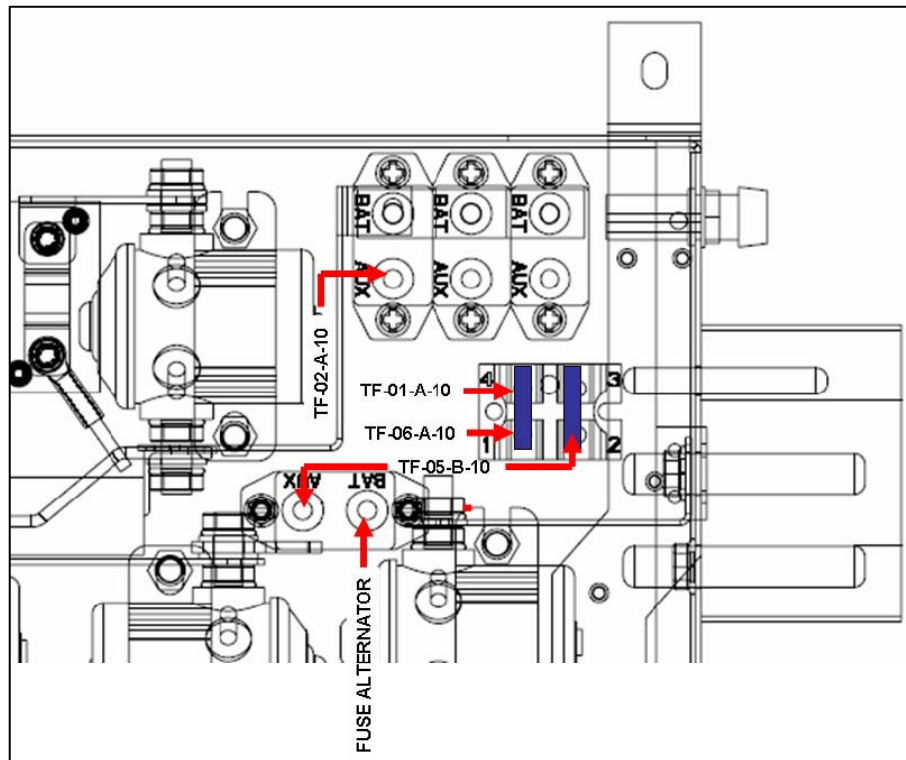
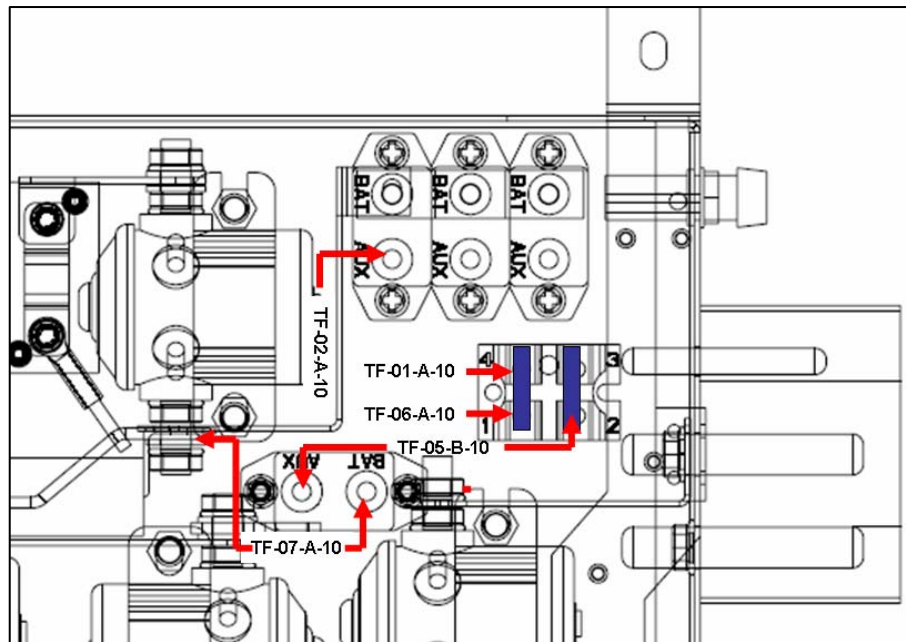

Figure 3 Before modification
Figure 4 After modification
- Install new line TF-07-A-10 (1) i.a.w. Figure 4. Refer to Figures 3 and Figure 4.